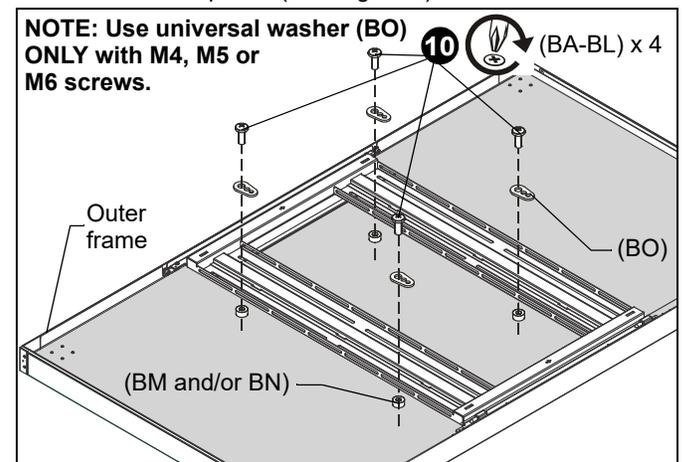

Figure 9
- Place hinged frame onto back of flat panel and match the VESA pattern on flat panel to the hinged frame mounting slots. Also match the threaded studs in outer frame to the hooks on the hinged frame. (See Figure 9)
- Use selected screws (BA-BL), washers (BO--if required), and spacers (BM, BN--if required), to connect hinged frame to back of flat panel. (See Figure 9)